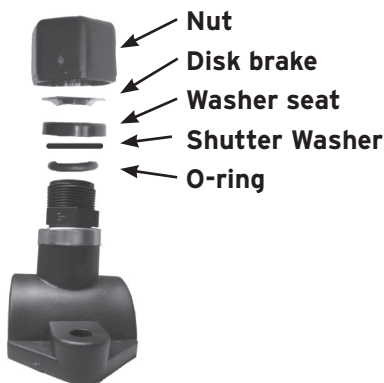

Fig. 12
- Put the shutter washer (fig. 12) in to close off the hole in the probe holder